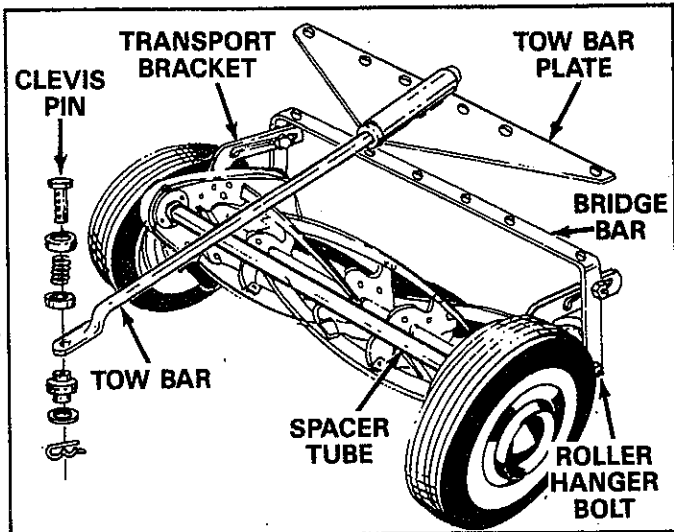

FIGURE 1
2. Assemble tow bar plate to bridge bar using (6) 5/16-18 x 1" bolts and 5/16" hex lock nuts. See figure 1.
3. Insert tow bar through tow bar plate. Secure with washer, clevis pin and cotter. See figure 1.
4. Assemble clevis pin to tow bar using (2) spring cups, spring, bushing, washer and hairpin cotter. See figure 1.
To engage transport brackets, lift up on the front spacer tube to tilt mower back on rollers as far as possible. While holding mower in this position, lift up on ends of transport brackets to make certain that shoulder bolts in sides of bridge bar seat properly in notches at forward ends of bracket slots. Then release spacer tube. See figure 1.